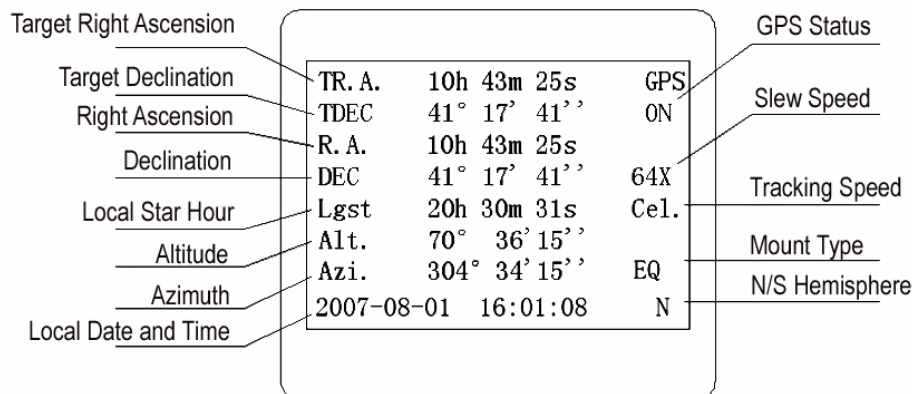

Figure 3. 8401 HC LCD Information Screen
The 8401 HC is designed to use for both iOptron's equatorial (EQ) mount, such as the SmartStar®-PR GOTO German Equatorial Mount and the GOTONOVA™ Equatorial Kit, and AltAzimuth (A/A) mount, which includes all SmartStar® GOTO mounts and telescopes. It consists of a large 8-line LCD screen, which displays all the information as shown in Figure 3. The user interface is simple and easy to learn.